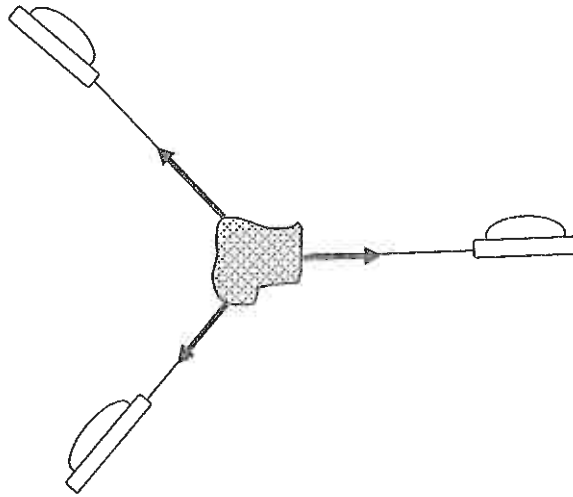

Figure 8.4: Non-Concurrent, Non-Parallel Forces
1. Fig.8.4 shows three spaceships pulling on an asteroid. Which way will the asteroid move? Will it rotate? The answers to these questions depend on the total force and the total torque acting on the asteroid. But any force acting on a body can produce both translational motion (movement of the center of the mass the body in the direction of the force) and rotation. In this experiment you will investigate the interplay between forces and torques by examining all the forces acting on a body in physical equilibrium.